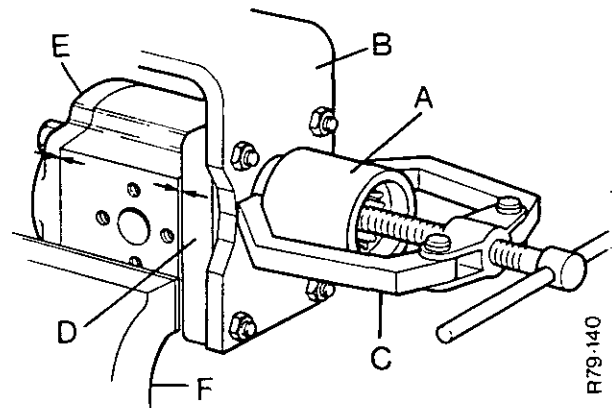

FIGURE 15. REMOVAL OF THE PUMP COUPLING
4. Carefully hold the pump body in a vice as shown in Figure 15. Use a puller to remove the coupling 'A' from the shaft. Take out the Woodruff key from its keyway on the shaft and remove any sharp edges.